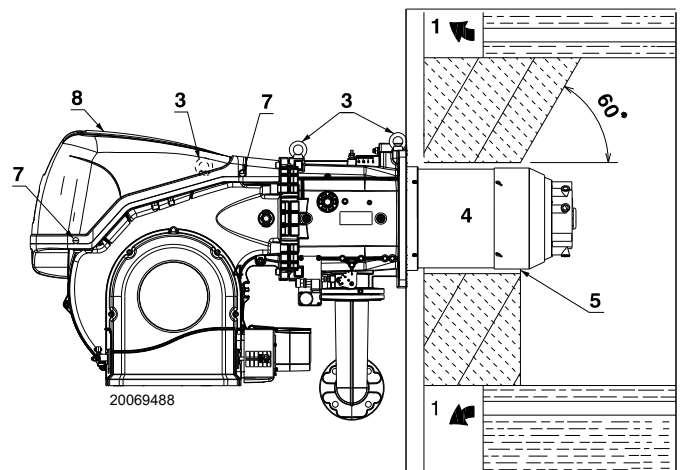

Fig. 14
For boilers with front flue passes 1)(Fig. 14) or flame inversion chamber, a protection in refractory material 5) must be inserted between the boiler fettling 2) and the blast tube 4).
For boilers with a water-cooled front piece, a refractory lining 2)-5)(Fig. 14) is not necessary, unless expressly requested by the boiler manufacturer.
Prepare a suitable lifting system using the rings 3)(Fig. 14), after removing the fixing screws 7) of the casing 8).
- Fit the heat insulation supplied onto the blast tube 4)(Fig. 14).